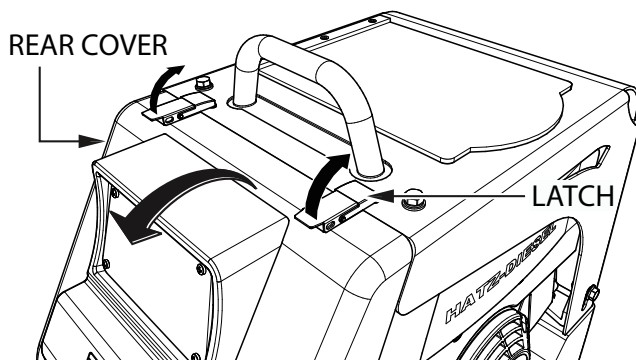

Figure 27. Open Rear Cover
1. Release the two latches at the top of the rear cover (Figure 27), then pull the rear cover downward to open.